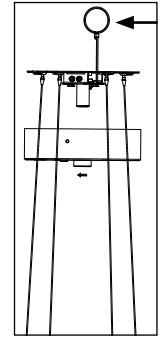

Figure 2: Safety Wire
3. Steel safety wire fixed to the back of the mounting plate must be firmly secured to suitable structural building component. [Figure 2]